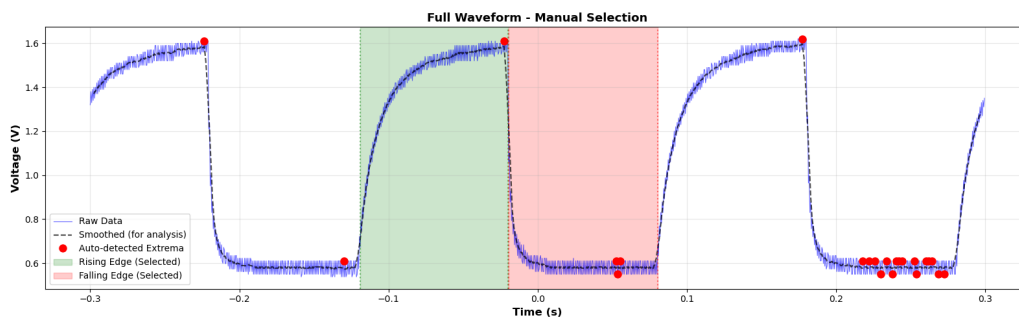

Figure 1: Wave form
1. For 5 Hz square wave, we download the data from the oscilloscope and plot the whole waveshape in Fig.1: